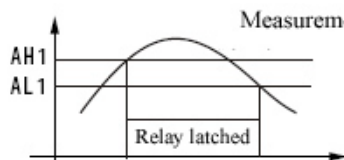

Fig 1 Upper limited
2. Set AH1>AL1(AH2>AL2), when measured value  $\geq$  AH1, the relay will latch; when AL1  $\geq$  measured value, relay unlatched. This is for 'upper limited' configuration. See Fig 1.